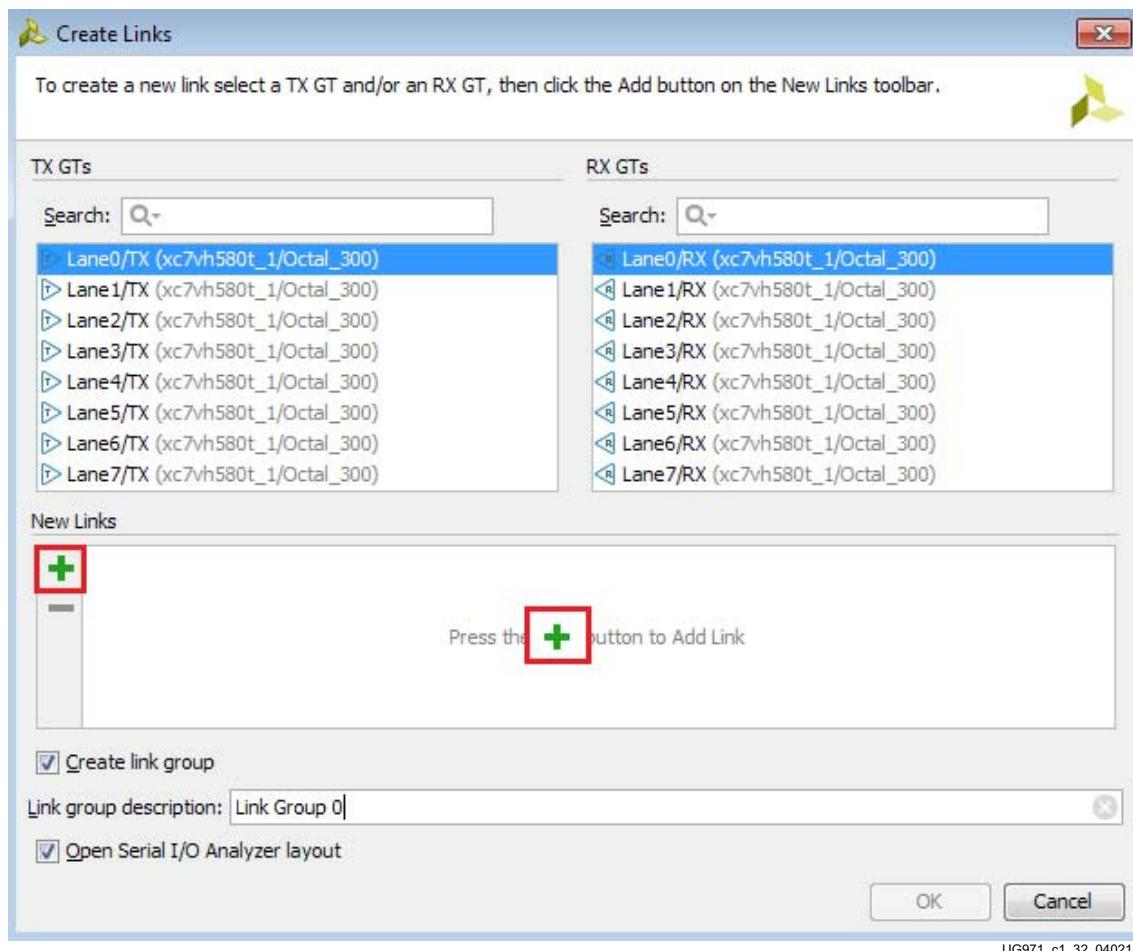

Figure 1-32: Create Links Window
6. If links are created manually, the Create Links window is displayed. The options in this window are used to link any TX GT to any RX GT. To create links, select the TX GT and RX GT from the two lists, then click the **Add Link** button. For this project, connect the following links (Figure 1-32):